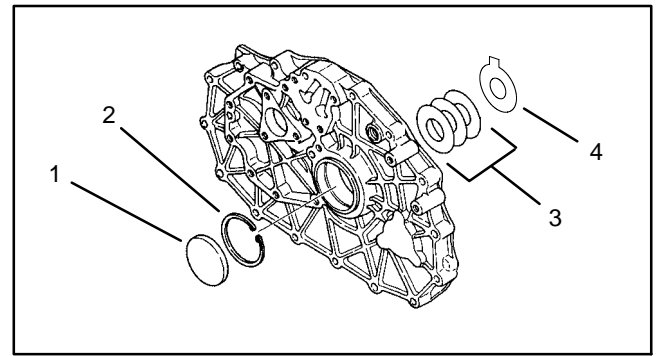

Figure 92
IMPORTANT: The center plate uses one (1) tabbed shim (item 4) with three (3) tabless shims (item 3) (Fig. 92).
NOTE: The thickest shim of the shim set (item 3) should be positioned against the retaining ring (Fig. 92).
16. Insert tabbed shim (item 4) against the bearing. Insert shim set (item 3) against the tabbed shim. Use thickest shims in set possible, that will permit installation of the snap ring (Fig. 92 and 93).